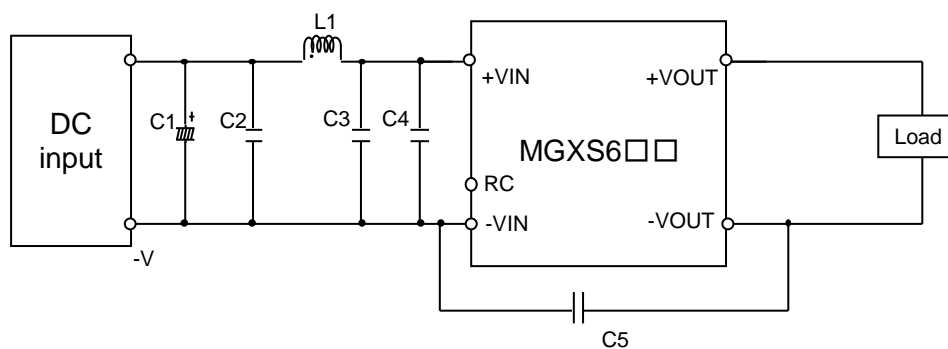

Fig.1 Testing circuitry
| 8 | Static electricity immunity test | (1) Applied voltage $\pm 4\text{kV}$ (2) At rated input and load (3) Testing circuitry Fig.1 | (1)No protection circuit fail. (2)No output voltage drop due to control (3)No any other function fail. | 1 | 0 |